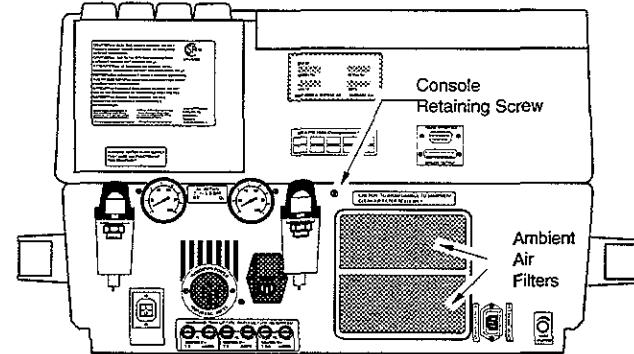

Figure 9-2
1. Open the Ventilator by removing the console retaining screw (Figure 9-2).